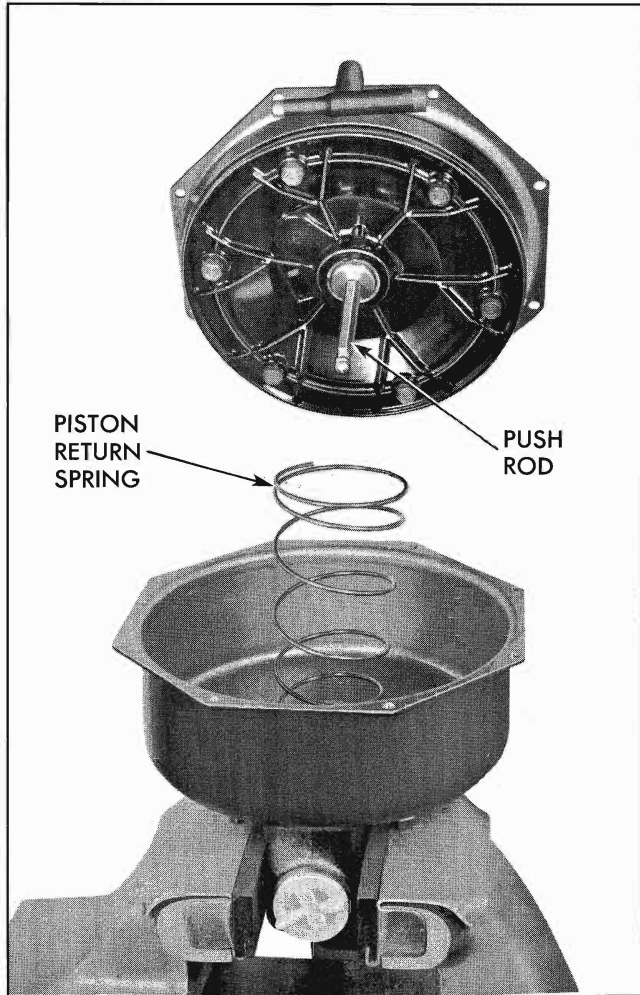

Fig. 5-B-10 Separating Power Piston and End Cover from Vacuum Cylinder
1. Gently mount power piston in a vise with plugged ends of vacuum passages against one vise jaw (Fig. 5-B-11).